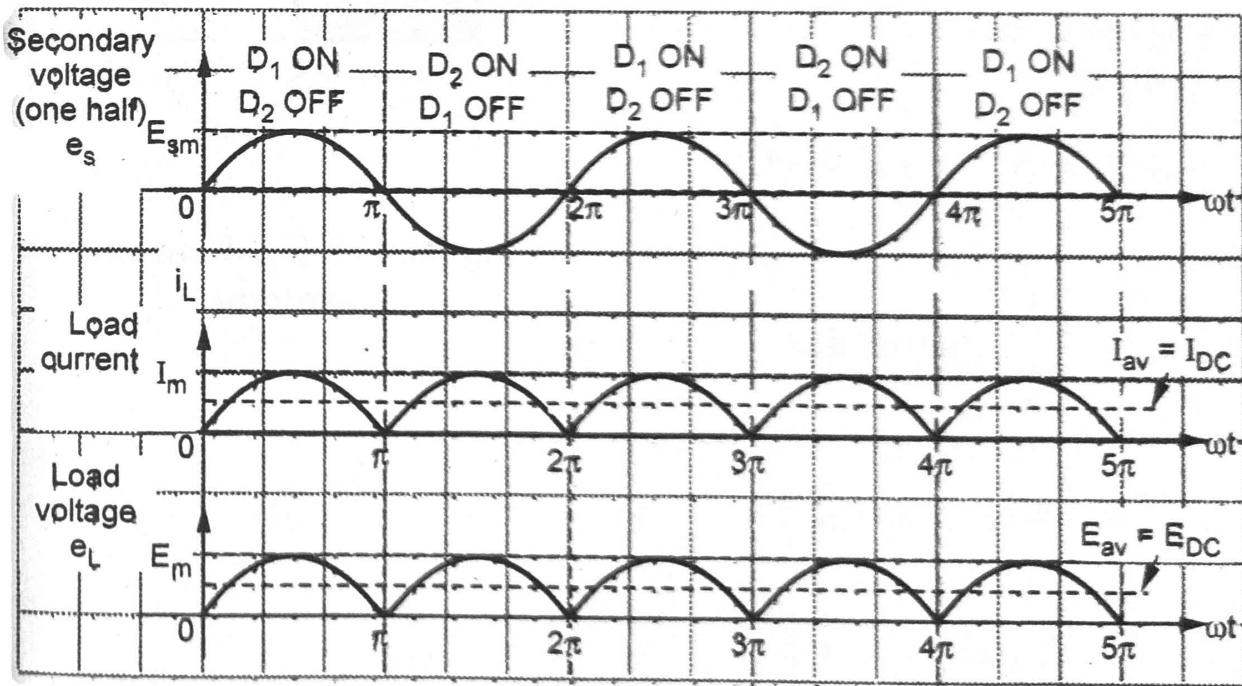

Fig. Q.23.2 Load current and voltage waveforms for full wave rectifier
- Consider the positive half cycle of ac input voltage in which terminal (A) is positive and terminal (B) is negative due to center tap transformer.
- In the next half cycle of ac voltage, polarity reverses and terminal (A) becomes negative and (B) positive. The diode D_2 conducts, being forward biased, while D_1 does not, being reverse biased. The diode D_2 supplies the load current, i.e. $i_L = i_{d2}$.
- The waveforms of secondary voltage (one half), load current and load voltage are shown in the Fig. Q.23.2.